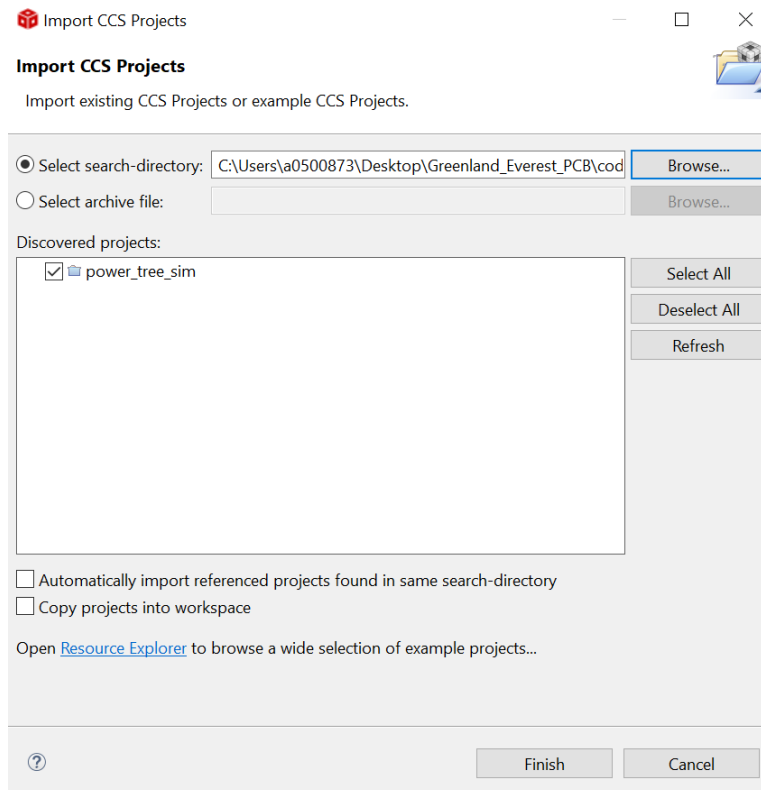

Figure 4-2. Recognizing the Project in CCS
- d. CCS recognizes the project and allows the user to import. Check to make sure the CCS has found the project, by looking for a checkmark to the left of the project name. This is shown in Figure 4-2.